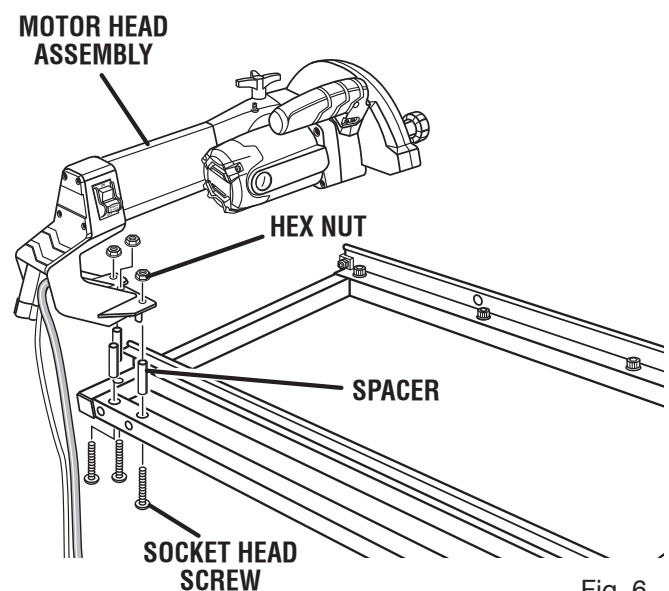

Fig. 6
- Place spacers in the top holes of the frame as shown in figure 6.